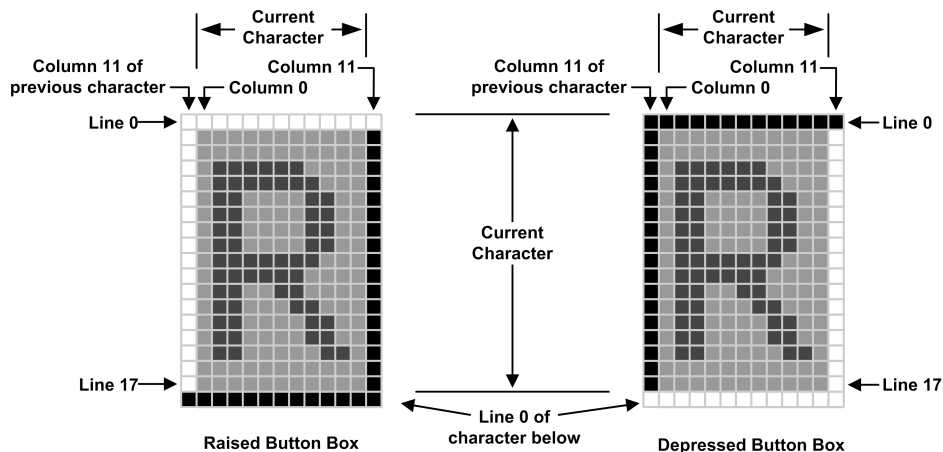
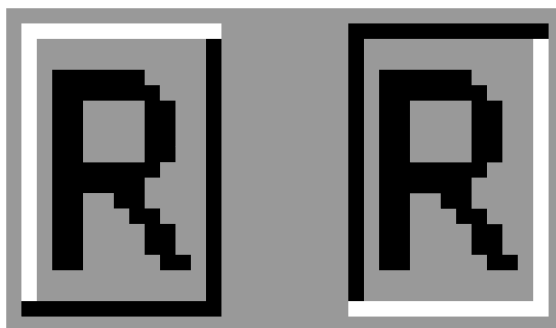

Figure 21. Button Box Detail
Figure 22. On-Screen Effect of Button Boxes
1. **Button Boxes**—The OSD generator examines the character string being displayed and if the “button box” attributes have been set in the Enhanced feature byte, then a box creator selectively substitutes the character pixels in either or both the top and left most pixel line or column with a button box pixel. The shade of the button box pixel depends upon whether a “depressed” or “raised” box is required, and can be programmed through the I²C compatible interface. The raised pixel color (“highlight”) is defined by the value in the color palette register, EF1 (0x8405–0x8406), which is normally set to white. The depressed pixel (“lowlight”) color by the value in the color palette register, EF2 (0x8407–0x8408), which is normally set to gray. See Figure 21 for detail and Figure 22 for the on-screen effect.